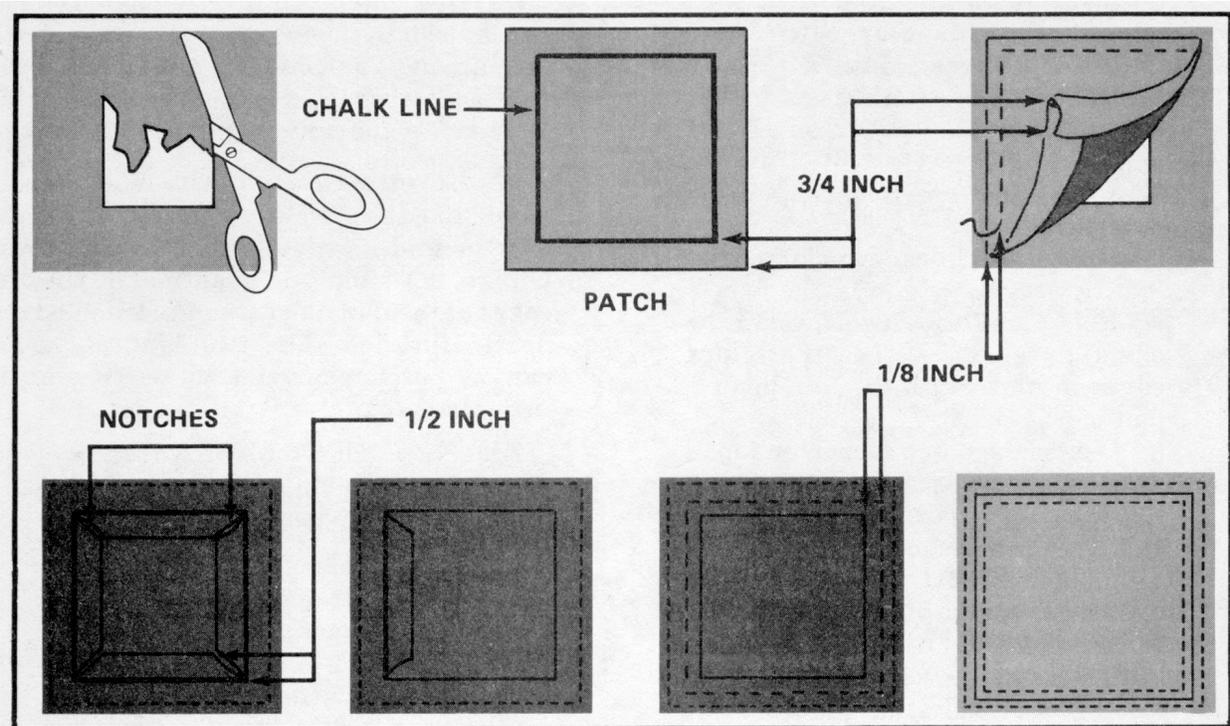

Figure 9-4. Felled canvas top patch
(1) Felled Canvas Top Patch. The felled canvas top patch (Figure 9-4) is sewn to the top side of canvas. To make a felled canvas top patch--